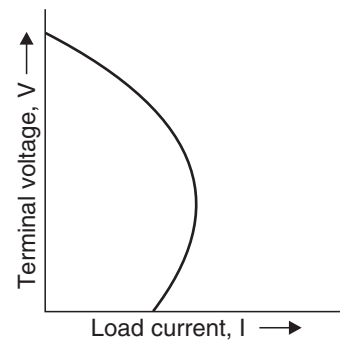

Fig. 45. Differential compound generator—load characteristic.
- Fig. 45 shows the load characteristic of differential compound generator.
When the differential compound generator is *without load* it builds up and self-excites its shunt field in much the same manner as the shunt generator. However, *when a load is applied, the generated voltage E_g is now reduced by the reduction in the main field flux created by the opposing m.m.f. of the series field*. This reduction in E_g occurs *in addition to the armature and series circuit voltage drop, the armature reaction, and the reduction in field current produced by reduction of the armature voltage*. The result is a sharp drop in the terminal voltage with load as shown in Fig. 45, and the field is below saturation and rapidly unbuilds.